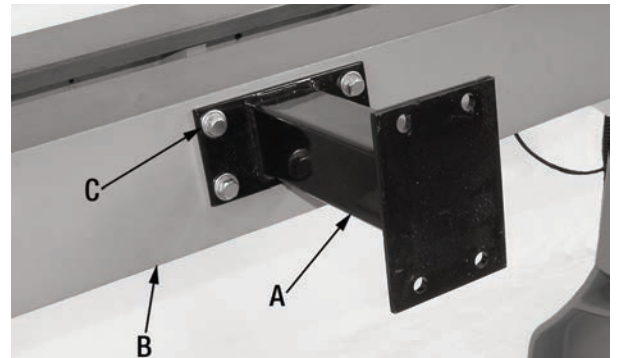

FIGURE 1
DRILL AND TAP FOUR M8 X 1.25 HOLES IN YOUR WOOD LATHE BED, USE THE MOUNTING BRACKET (A) FIG.1 AS A TEMPLATE.
1. Install the mounting bracket (A) Fig.1 to the rear of the wood lathe bed (B) using four hex. bolts and washers (C).